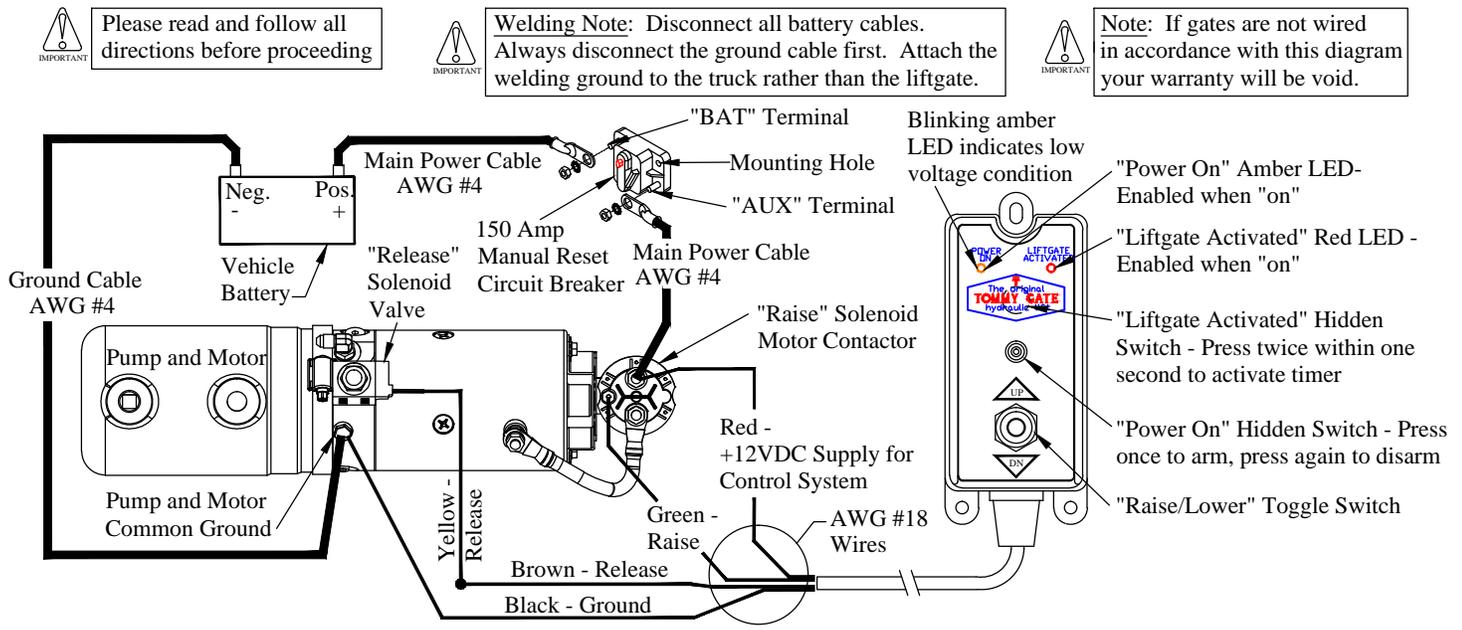

Figure 13: Wiring diagram.
3. **Push** the hidden "Power On" switch (Figure 13). The amber "Power On" LED will illuminate.
12. **Connect** the circuit breaker and battery as outlined in the *Tommy Gate Recommended Electrical Wiring Guidelines* and wiring diagram (Figure 13).